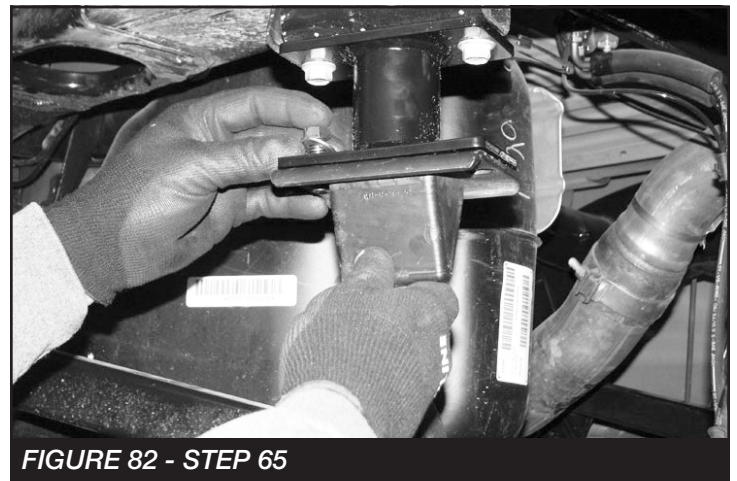

FIGURE 82 - STEP 65
65. Locate the FT44268BK rear bump stop spacer and supplied 7/16"-14 x 1-1/4" bolts, nuts, and washers. Install the FT44268BK spacer with the factory bolts that were removed during disassembly. Then, install the factory bump stop onto the spacer bracket with the supplied 7/16" hardware. Torque to 58 ft-lbs. **SEE FIGURE 82**